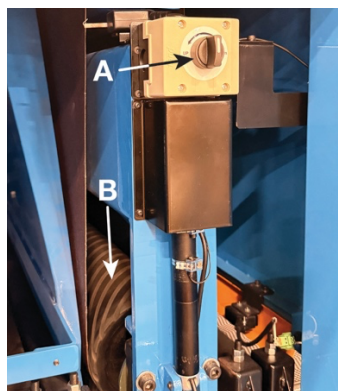

Figure 9-1
2. Lower the conveyor table to ensure a clearance of at least 0.39" (10mm) from the contact roller (B, Figure 9-1). This prevents the abrasive belt from touching and damaging the conveyor belt surface during installation.
3. Locate the belt tension control switch (A, Figure 9-1) near the sanding direction label. Turn the belt tension control switch to the "down" position to release the tension roller.
8. Turn the tension control switch (A, Figure 9-1) to the "Up" position. The tension roller will move up to tension the belt. This system uses an electric actuator to automatically control belt tension, so no manual tension adjustment is needed. If you forget to set it to the "Up" (tension) position, the abrasive belt will not operate when the sanding head is activated.